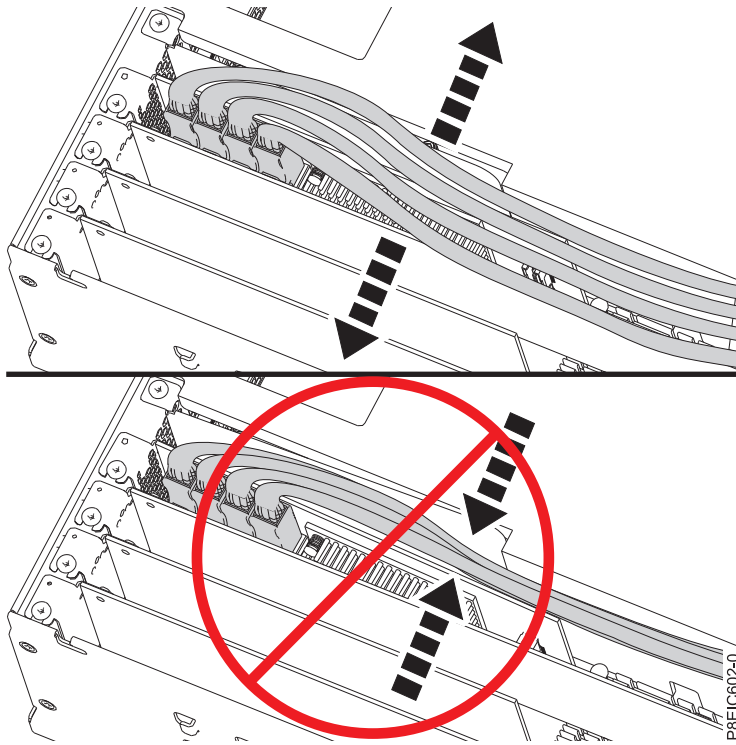

Figure 52. Routing the disk drive signal cable
- f. Route the disk drive signal cables along the top of the PCIe adapters to keep the cables from damaging the adapters. Do not route the cables between the adapters. Spread the cables to ensure that the service access cover can be closed without pinching the cables. See Figure 52 on page 45 for an example of how to route the cables along the top of the PCIe adapters. Your cable connections may differ from Figure 52 on page 45, but how the cable is routed along the top of the PCIe adapters will not differ.